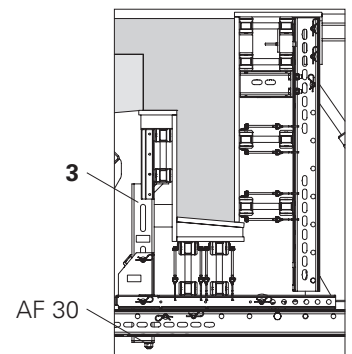

Fig. A2.05b
- By turning the bolt (AF 30), the standard can be adjusted by ± 5.0 cm. (Fig. A2.05b)